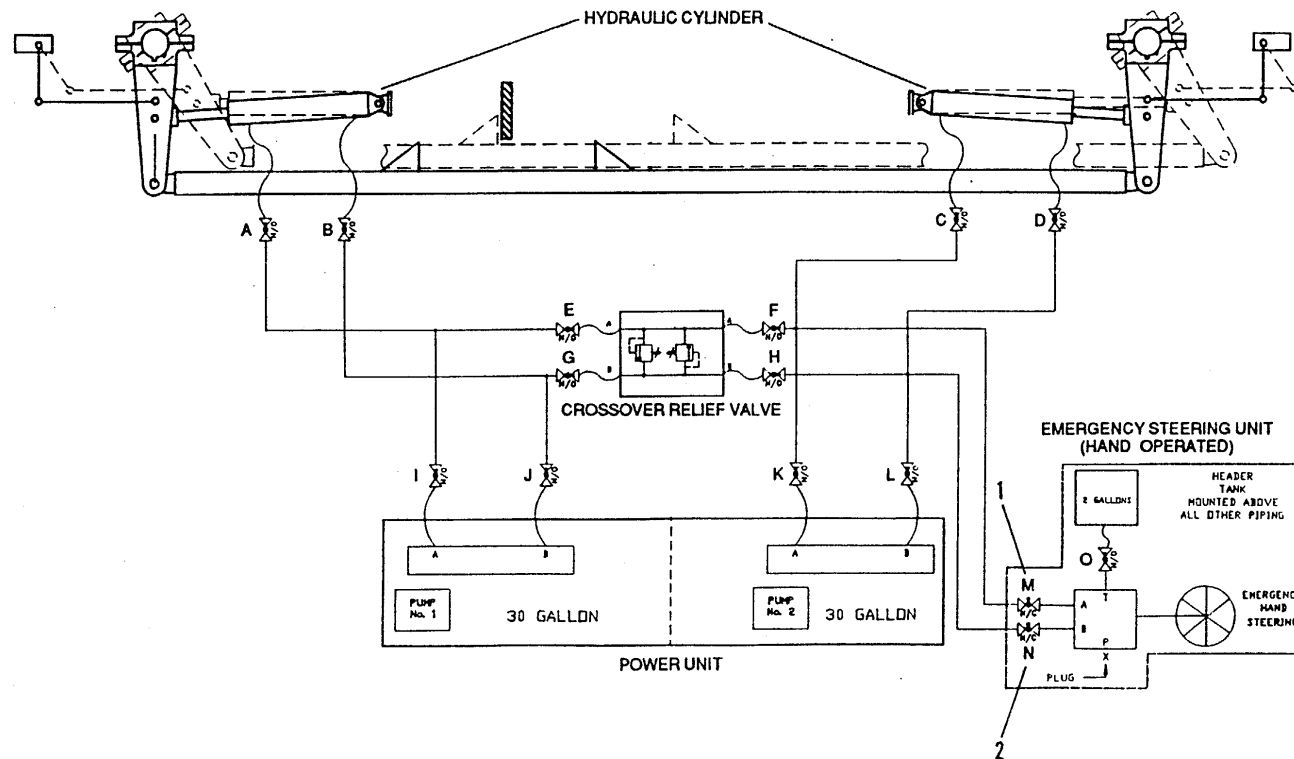

FIGURE 2-248.3. Steering System Hydraulic
- e. If emergency hand pump operation is required, shut pumpsets down and open valves M and N (1 and 2 FIGURE 2-248.3). Operate emergency hand pump as ordered from pilothouse.